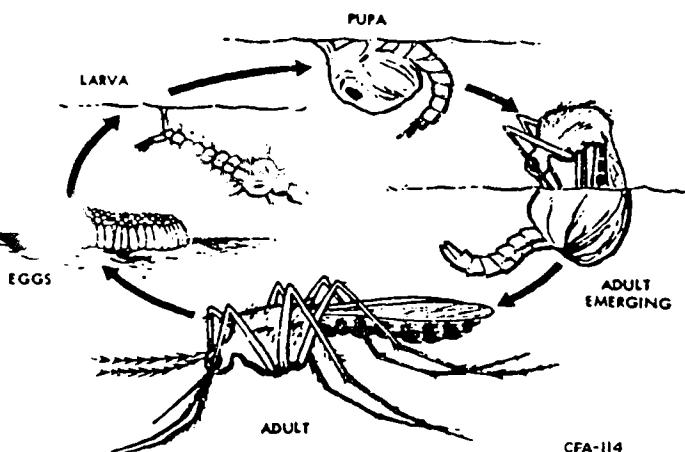

Figure 2-9. Life cycle of the mosquito.
**Breeding.** Mosquitoes will breed in practically any collection of water which stands longer than 5 to 7 days, (see fig. 2-9). Those breeding in and around human dwelling places are called domestic mosquitoes. Different kinds of mosquitoes vary in their choice of breeding places. Some like sunlit places; others prefer the shade. Some prefer fresh water to stagnant water; others prefer the brackish water of salt marshes. Common breeding sites are ponds, inlets, camps and ditches, rain barrels, road gutters, pit latrines, and excavation sites.